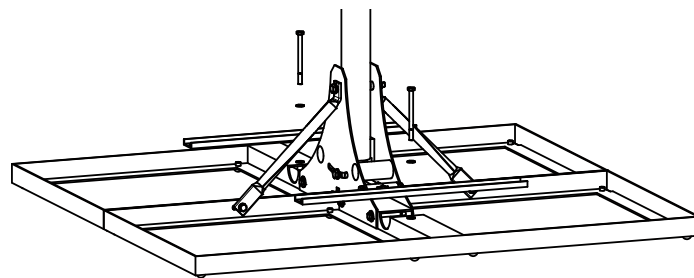

Fig. 6: Attaching the rails for securing the concrete slabs
- Attach the two rails for securing the concrete slabs on both sides using the M8 x 50 mm or M8 x 110 mm screws, depending on the height of the concrete slabs (Fig. 6).